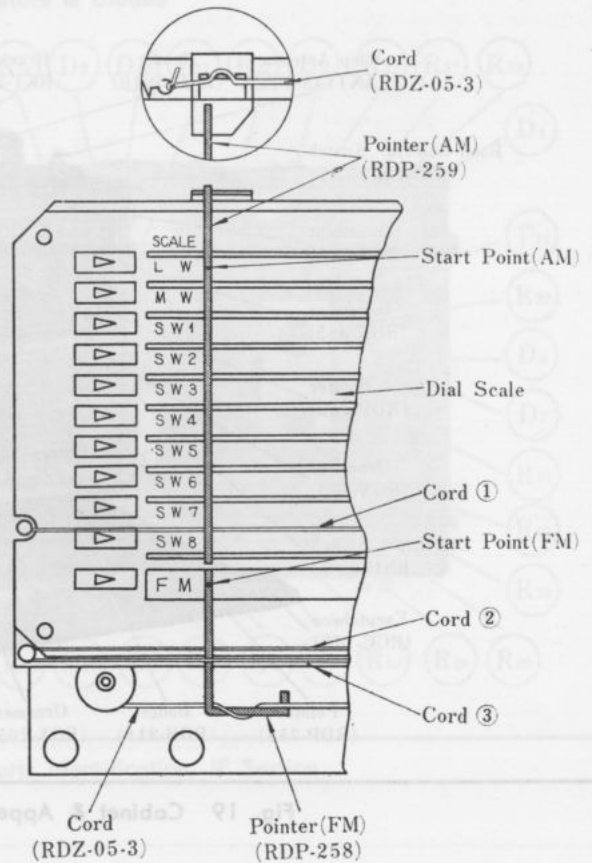

Fig. 17 To Mount Dial Pointer
4. Set AM & FM dial pointers as illustrated in Fig. 17.